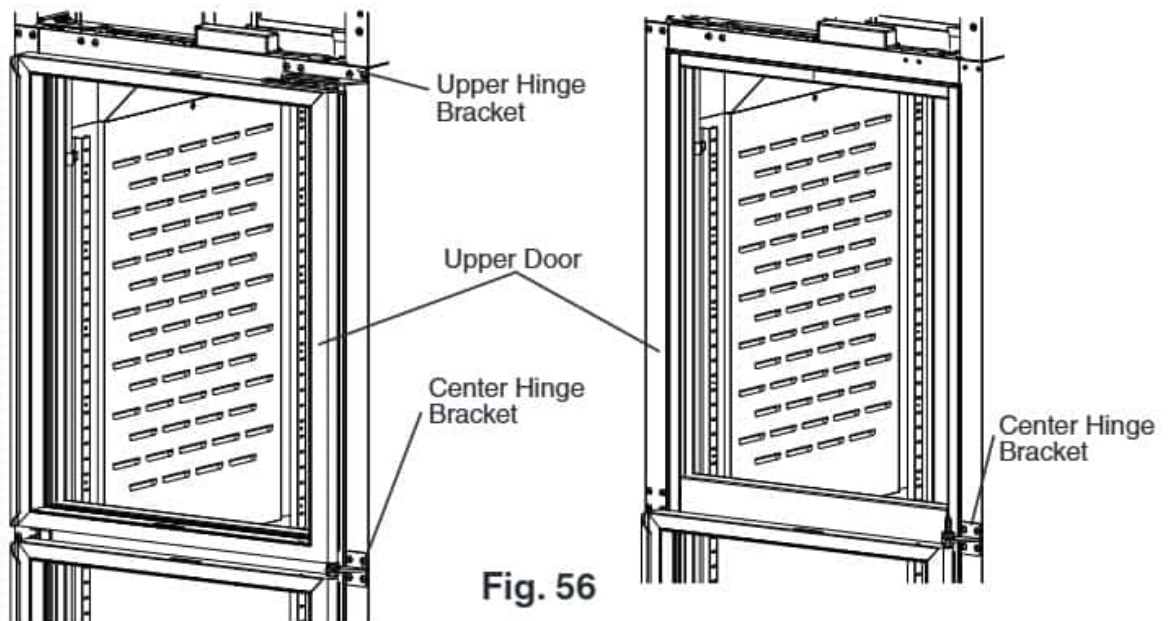

Fig. 56
- 8) Close the upper door, while maintaining a hold on the door, remove the upper hinge bracket, then lift the door off the center hinge bracket upper pin and set aside. See Fig. 56. Retain the upper door thrust washer and the center hinge bracket thrust washers and washer for opposite side hinge bracket installation. **NOTICE!** Thrust washers must be in place to prevent wear and damage to the hinge brackets.